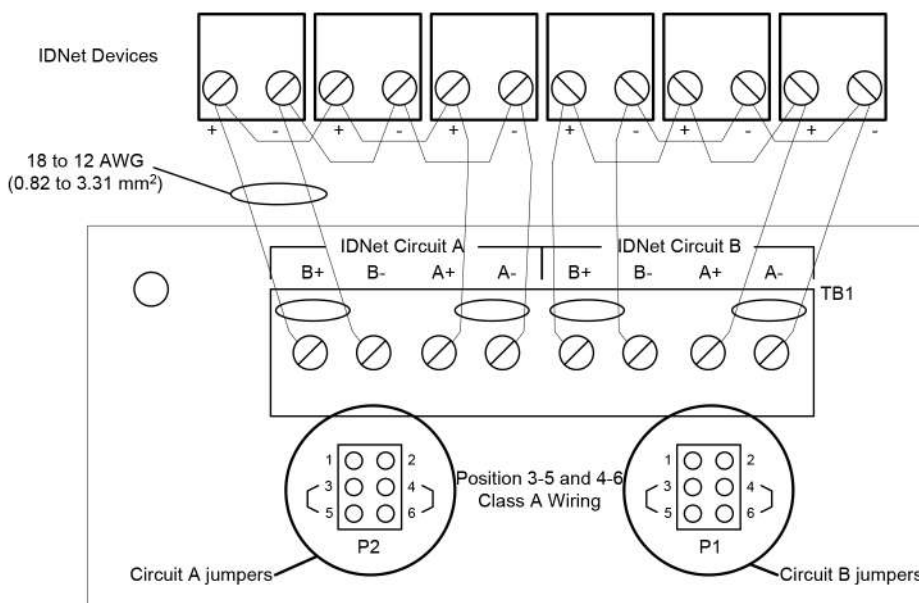

Figure 41: Class A wiring
To connect the ESS with an IDNet2 channel to devices using Class A wiring, read the following instructions and refer to Figure 41:
2. Route wiring from the first IDNet device to the next as in/out as shown in Figure 41. Repeat for each device.
Note: Set jumpers to Positions 3-5 and 4-6 to select Class A operation. (Refer to P1 and P2 in Figure 41 for correct orientation)